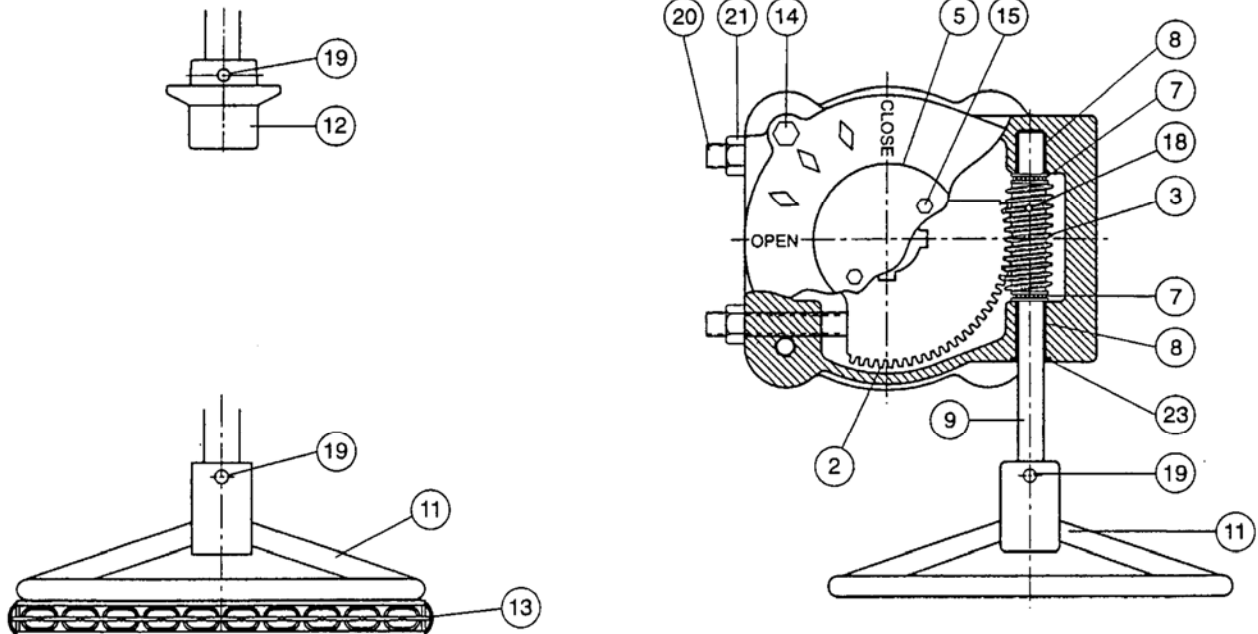

FIGURE 10. GEAR ACTUATOR CONSTRUCTION
WORM GEAR ACTUATOR MAINTENANCE: A typical worm gear actuator is shown in Figure 10 and consists of a worm (3) mounted on an input shaft (9). The worm engages a segment gear (2). When the worm is turned, it drives the segment gear through 90° of rotation. The rotation of the segment gear is displayed by the top indicator (5). The gears are lubricated with EP2 grease in a cast iron housing (1). The open and closed positions of the segment gear (2) are controlled by the end position stop bolts (20). The stops can be adjusted by loosening the lock nut (21) and rotating the bolts (20).